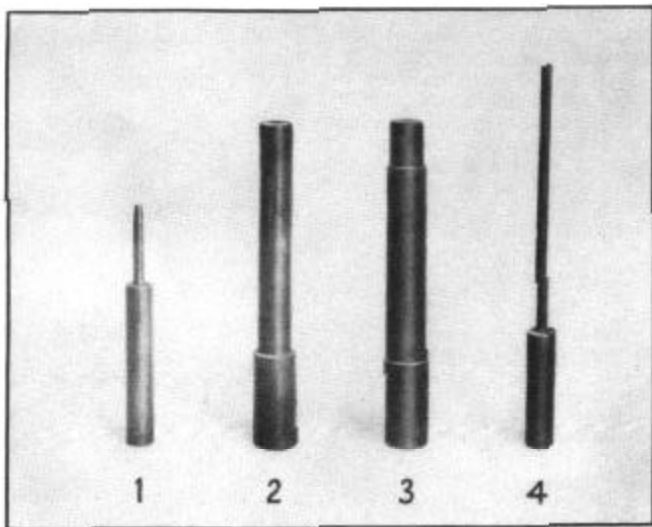

Figure 14--Steering Spindle Pivot Pin and Bushing Removing and Replacing Set
10. Remove eccentric bushing locking screw (25) and bushing (24).
11. Remove steering spindle (1) and steering spindle support (5) together.
12. Remove grease fitting (6) at the top of steering spindle (1).
13. Drive pivot pin (60) from the top using tool J 479 (No. 1 Figure 14) thru the hole in the upper end of steering spindle left when the oiler was removed.
14. The expansion plug and relief valve (67) at the bottom of the spindle will be forced out.
15. Then insert the long driver tool J 479 (No. 4 in Figure 14) and drive pivot pin (60) out.
- CAUTION: Remove steering spindle pivot pin carefully so that the 7 ball bearings (62) will not be lost.
16. The removal of the steering spindle pivot pin separates the steering spindle (1) from the steering spindle support (5).
1. Hold steering spindle support (5) in a vise so that bushing can be forced out.
2. Drive thrust ball cup (upper bushing) (64) out with a copper hammer.
3. Insert driver tool J 990, Figure 14, into the lower bushing (65) and drive it out.
1. Support steering spindle support (5) in a vise so that bushing (65) and thrust ball cup (64) can be driven in.
2. Use the tool J 990 (No. 3 in Figure 14) and install the thrust ball cup (upper bushing). Have the top of steering spindle support well supported.
3. Use the tool J 990 (No. 3 in Figure 14) and install the lower bushing. Have the bottom of steering spindle support well supported.
1. Place jack under lower support arm (9) and raise front wheels clear of the floor.
3. Remove brake backing plate (7) and place on top of frame so as not to injure or disconnect hydraulic brake tube.
4. Remove cotter pin nut and washer holding steering arm (47) to steering spindle (1).
5. Drive steering arm (47) out of the steering 4 spindle (1) with tool J 1373.
6. Remove cotter pin, nut, and lower support arm outer pivot bolt (17).
7. Remove eccentric bushing lock screw (25).
8. Remove eccentric bushing (24) and steering spindle (1) with steering spindle support (5).
9. Remove grease fitting (6).
10. Drive pivot pin from the top using tool J 479 (No. 1 Figure 14) thru the hole in the upper end of the steering spindle left when the oiler was removed.
12. Then insert the long driver tool J 479 (No. 4 in Figure 14) and drive the pivot pin out.